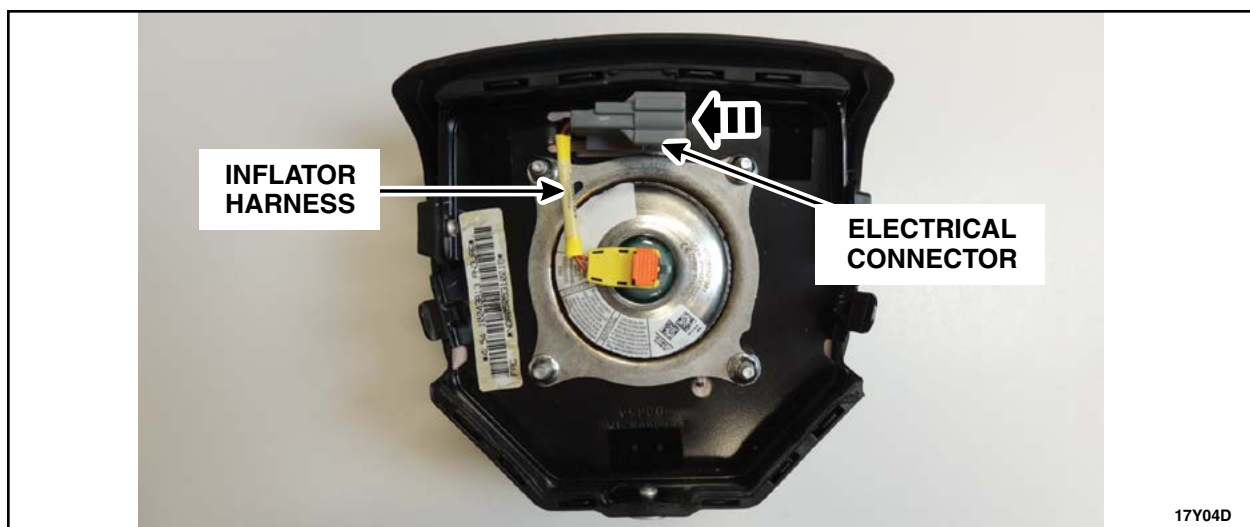

FIGURE 5
6. Align the T-shape index on both the wiring harness electrical connector and the airbag inflator, connect the *new* airbag wiring harness to the inflator module and fully seat the orange tab. See Figure 5.
7. Ensure the connection between the wiring harness electrical connector and the airbag inflator by pulling gently on the wiring harness to ensure it is properly seated. See Figure 5.
8. Slide the airbag inflator connector onto the tang. See Figure 5.